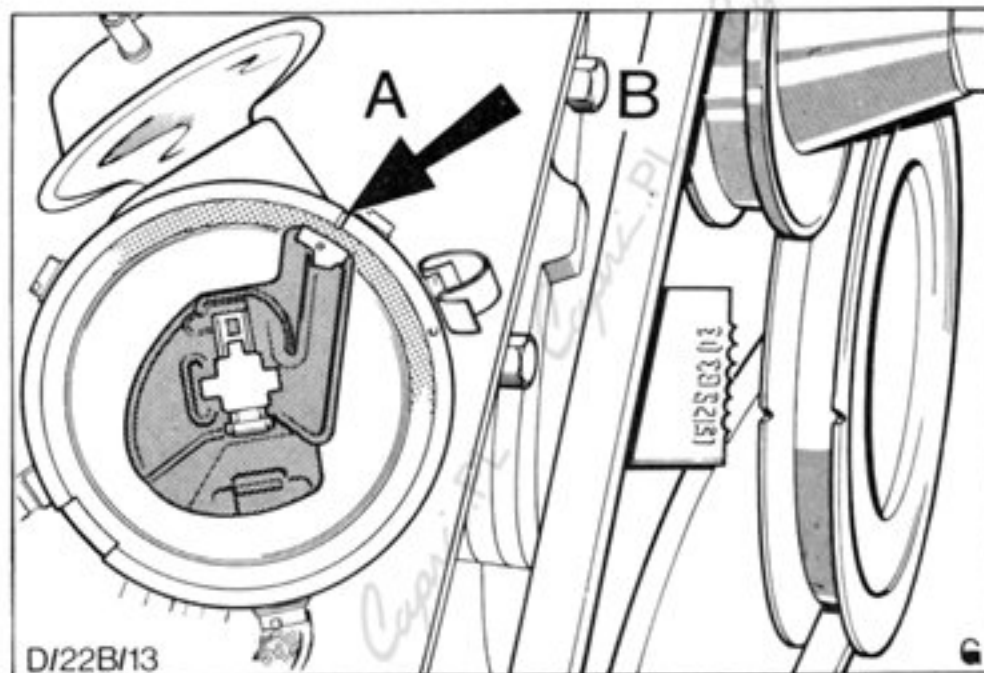

Fig.42. Engine set at  $12^{\circ}$  BTDC on No.1. cylinder.
4. Position engine at  $12^{\circ}$  BTDC on No.1. cylinder by manually turning engine to a point where rotor arm lines up with slot cut in distributor housing and  $12^{\circ}$  mark on crankshaft pulley lines up with timing mark, Fig.42.